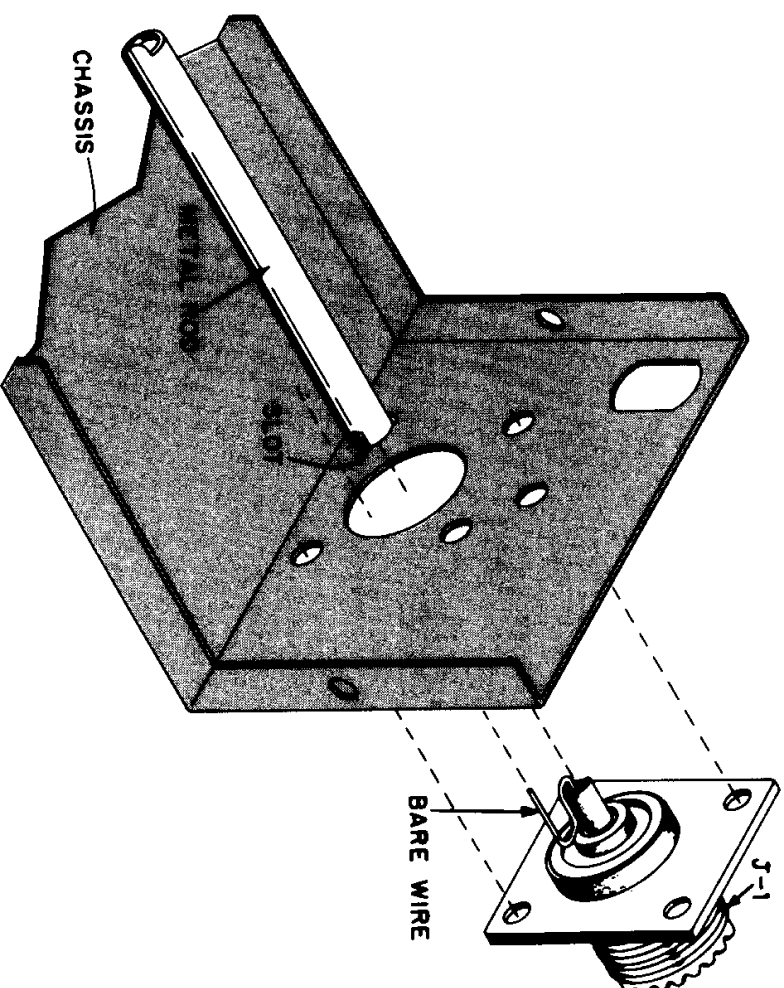

FIGURE 5. COAXIAL CONNECTOR MOUNTING
- ☒ J-1, the other connector. Cut a 1½" piece of the small bare wire. Solder one end of the wire to J-1. Bend the other end as shown in Figure 5.
- ☒ Slide one end of the metal rod over J-2 with the small bare wire on the outside of the rod as shown. Mount the other end of the rod, J-1 and a solder lug as shown in Figure 5. Use four 4-40 screws, three #4 lockwashers and four 4-40 nuts. Do not use a lockwasher on the screw which mounts the solder lug.